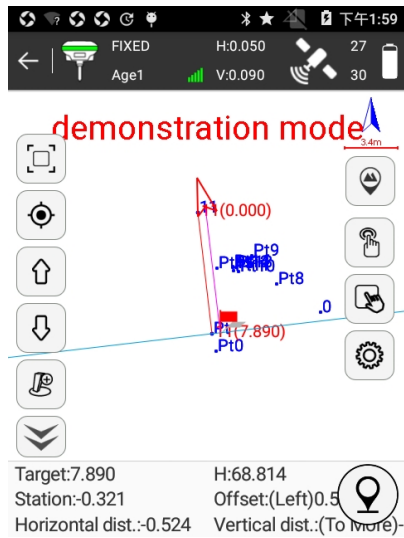
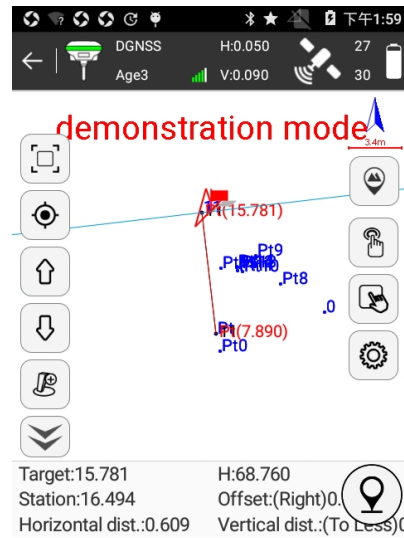

Figure 5.15-1
Figure 5.15-2
Press [Survey]-> [Existing Stakeout] and select an existing line to stakeout as shown in Figure 5.15-1.
- (1) Enter Stake Existing Lines and set start line or import line files.
- (2) Select target line and press [OK] to enter stakeout interface as shown in Figure 5.15-1. The normal line is generated at the center point, which is conducive to measuring cross section. The vertical line of normal line is formed by overturning the front point, which can help to distinguish the direction.
- (3) Measure cross section of mileage at current point according to line mileage, line offset, horizontal distance and vertical distance in bottom status.
- (4) Press to collect data at current coordinate, that is, cross section.
(5) Press to connect end point and current point of stakeout line as shown in Figure 5.15-2. Press Stake Existing Lines and it can view parameters of connection line.
(6) Move current point and repeat step 4 and 5 until complete all existing line stakeout.
(7) The adjacent center points can be switched automatically by and keys to measure cross section.